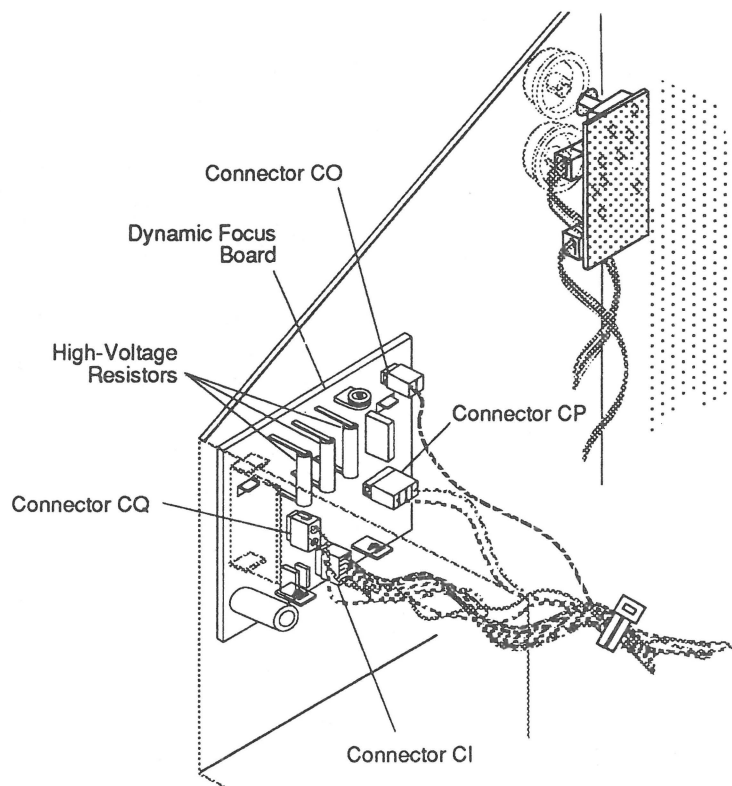

FIGURE 13
3. Reconnect the following connectors to the dynamic focus board (**Figure 13**):